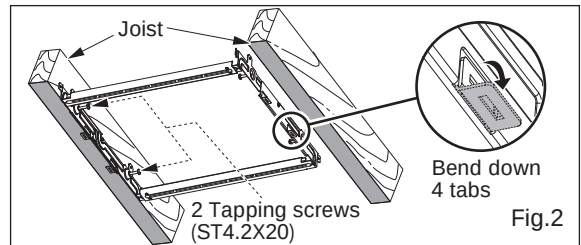

Fig.2
2. Bend down 4 tabs for positioning, install the Flex-Z Fast™ bracket to joists by drilling 2 tapping screws which have been fixed on it. (Fig.2)